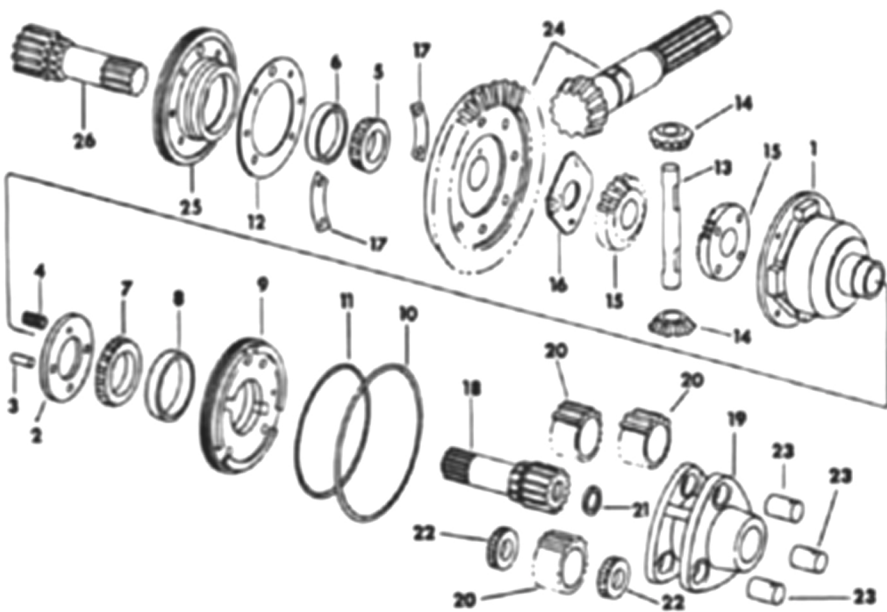

Fig. 133 - Exploded view of differential, planetary unit and associated parts used on Model Hydro 84 tractors.
The differential assembly for Model Hydro 84 has two pinions with a single cross shaft (Fig. 133). Models 684, 784 and 884 have four pinions and four stub shafts (Fig. 134). The differential lock is on the right hand side of all models.
Refer to Fig. 140 for an exploded view of differential lock linkage and to items 2, 3, 4 and 15 - Fig. 133 or 134 for differential lock.